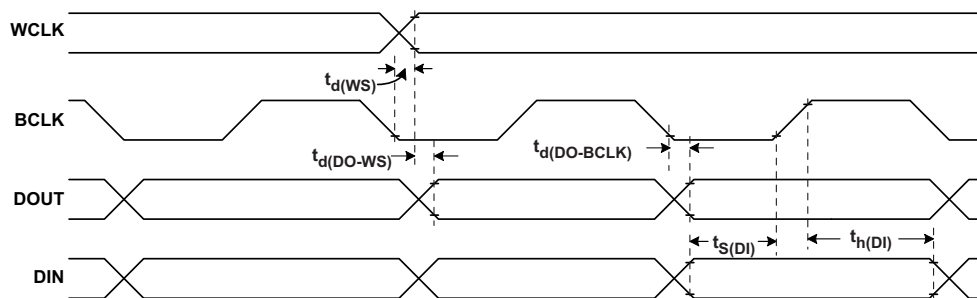

Figure 1. I2S/LJF/RJF Timing in Master Mode
**WCLK** represents WCLK1 pin for Audio Serial Interface number 1, WCLK2 pin for Audio Serial Interface number 2, and WCLK3 pin for Audio Serial Interface number 3. **BCLK** represents BCLK1 pin for Audio Serial Interface number 1, BCLK2 pin for Audio Serial Interface number 2, and BCLK3 pin for Audio Serial Interface number 3. **DOUT** represents DOUT1 pin for Audio Serial Interface number 1, DOUT2 pin for Audio Serial Interface number 2, and DOUT3 pin for Audio Serial Interface number 3. **DIN** represents DIN1 pin for Audio Serial Interface number 1, DIN2 pin for Audio Serial Interface number 2, and DIN3 pin for Audio Serial Interface number 3. Specifications are at 25° C with DVDD = 1.8 V and IOVDD = 1.8 V. (See Figure 1)